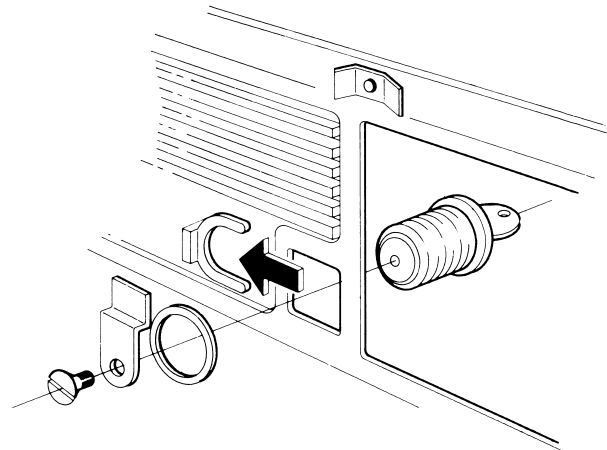

Figure 7-25. Removing the Security Lock.
3. Remove the security lock from the system unit cover by removing the screw and clip that secures the entire assembly to the system unit cover (Figure 7-25).